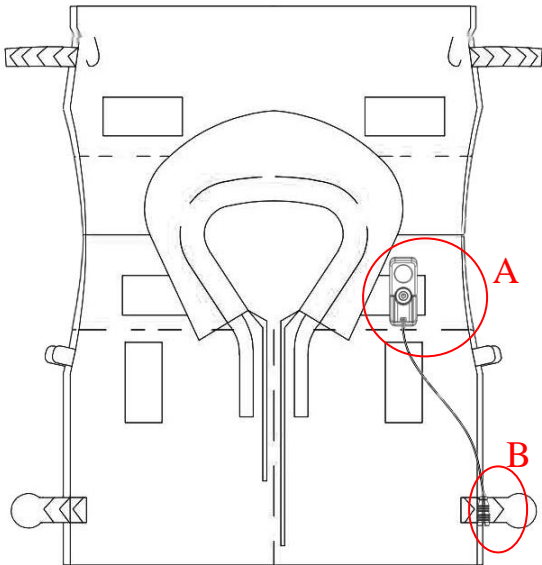
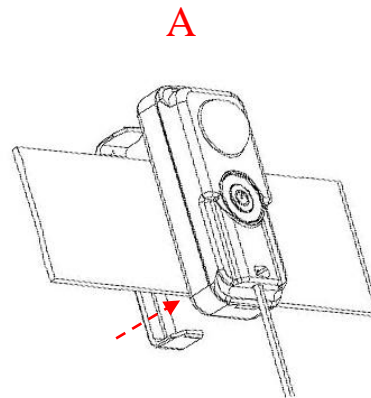
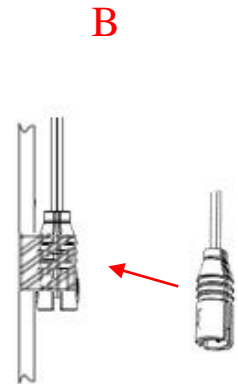

Figure 3-1
Figure 3-2
Figure 3-3
LNK-SL2 and LNK-SL2W lifejacket lights are supplied with fix buckles. The buckle is normally fixed through a belt or the fiber near the shoulder of lifejacket, and the water sensors should be fixed on a lower position of the lifejacket. The typical installation is shown as below picture Figure3-1. The user must ensure that the light attached to the lifejacket firmly:
3.2.1 The main body with LED lamp should be firmly mounted on the attached lifejacket as Figure3-2 and the whole LED lamp part should be clearly seen in the 360°horizontal direction without any obstacle.
3.2.2 The external water sensors should be firmly attached to suitable position (as Figure 3-3
3.2.3 Installation procedures on life jackets are show as below pictures. Figure 3-1 shows the example installation position of the light. Figure 3-2 and Figure 3-3 shows the installation steps of the lights.